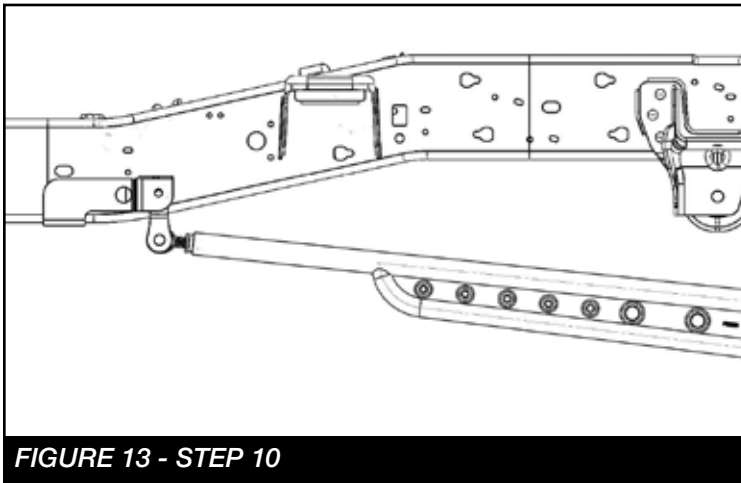

FIGURE 13 - STEP 10
10. Mount the FT30632BK (Driver frame bracket) using the factory bolts. Locate the Fabtech shackle bracket (FT90018) and install two FT1004 bushings and one FT66 sleeve into the end of the shackle with the barrel. Next, install the FT90018 (Shackle) to the Fabtech traction bar using the supplied 3/4"-10 X 2-1/2" hardware. **NOTE: The shackle should be installed so the traction bar will offset away from the frame.** Install the assembly into the Fabtech frame bracket using the 1/2-13 X 4" bolt, lock washer flat washer and FT30635 (Nut Tab) by inserting the nut tab through the hole you previously opened up in step 9. **SEE FIGURE 13**